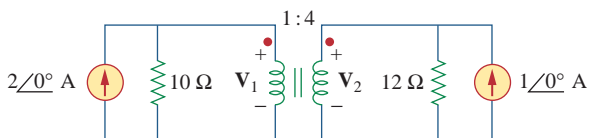

Figure 13.108
13.43 Obtain V_1 and V_2 in the ideal transformer circuit of Fig. 13.108.